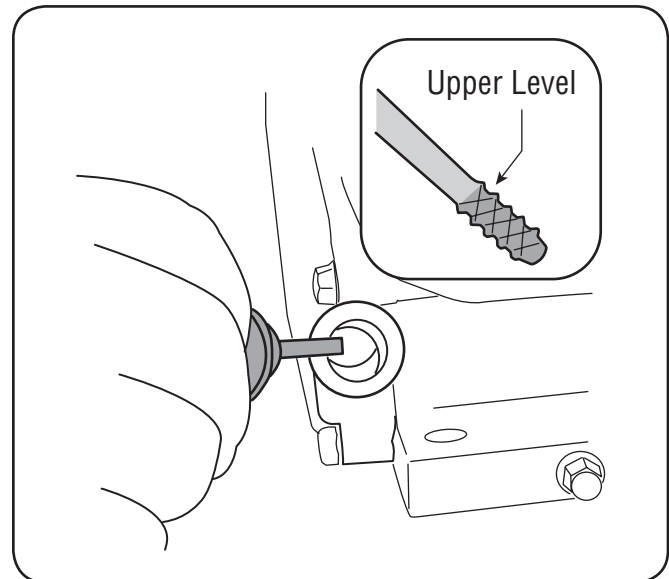

Figure 3-2
- Keep oil level near or slightly below the upper level mark on the dipstick or to point of overflow on engines without dipstick. See Figure 3-2.
1. Remove the oil filler cap/dipstick and wipe the dipstick clean. See Figure 3-2.
3. Remove the oil filler cap/dipstick. If the level is low, slowly add oil until oil level registers between high (H) and low (L), Figure 3-2.